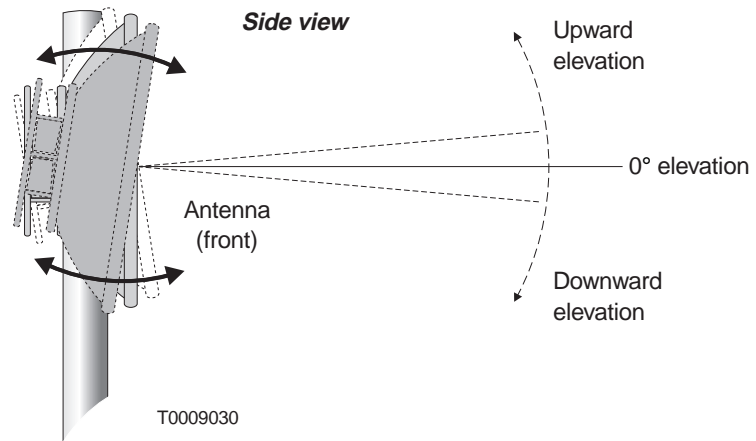

Figure 6-16 Antenna elevation adjustment (upward or downward adjustment)
To adjust the antenna elevation (upward or downward pointing direction), you rotate the antenna upward or downward, as illustrated in figure 6-16, until the elevation is set as desired.
- Using the boresight for reference, rotate the antenna (by hand) as shown in figure 6-16 until you can see the HT in the vertical center of the boresight, with no shadow inside the top or bottom of the boresight. See figure 6-14.